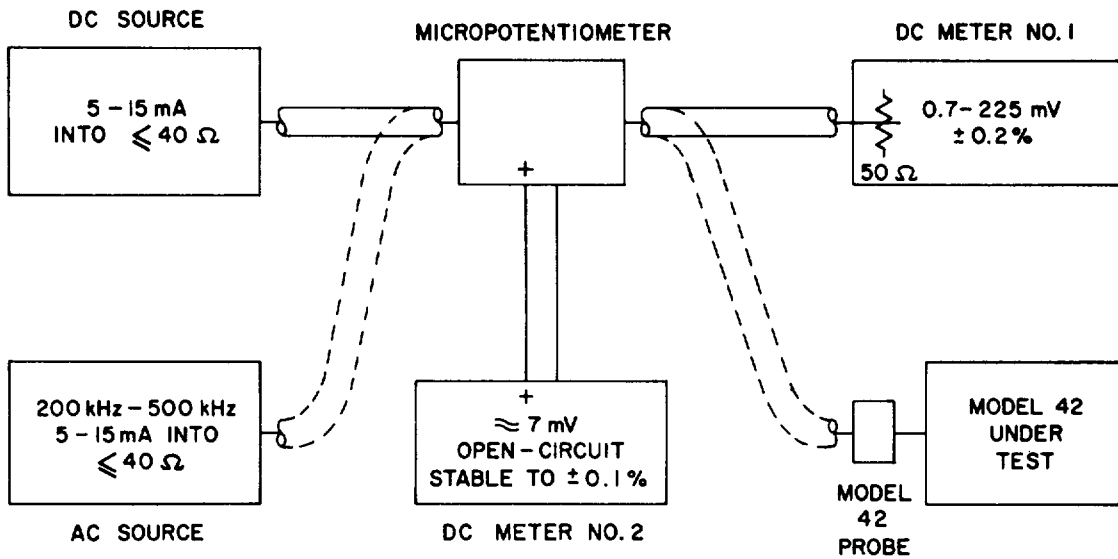
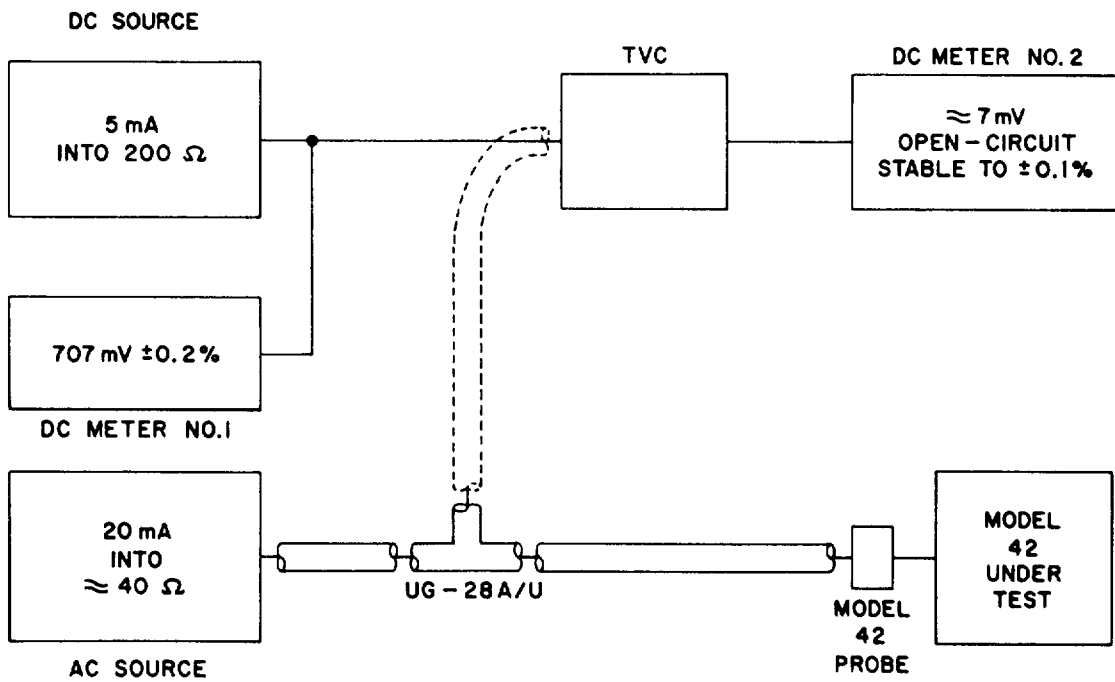

Figure 9. Connections
Figure 10. Connections
Because of the outstanding low-frequency response of the instrument (200 kHz as opposed to the usual 10 MHz of competitive instruments) it is convenient to check the performance by using voltage sources in the frequency range of 200 kHz to 1 MHz. In this range, there are commercial sources and reference standards available with the required accuracy. Figure 9 shows the suggested equipment and connections to check all ranges of the instrument, except the +10 dBm range; Figure 10 shows the suggested equipment and connections to check the +10 dBm range.
The Boonton Model 25A Power Meter Calibrator can be substituted for the equipment shown in figures 9 and 10. This calibrator provides 1 MHz power levels from -69 to +20 dBm in 1 dB steps with 0.05 dB uncertainty. If the Model 25A Calibrator is used, disregard all references in paragraphs 5.4 and 5.5 to equivalent voltage levels; merely refer to specified power levels which then can be switch-selected on the Model 25A.
Each range is checked by connecting the Model 440 micropotentiometer (using the appropriate thermocouple and radial resistor) to the dc power source and dc meter No. 1 (Figure 9) and adjusting the dc power source until the dc meter No. 1 reads the voltage equivalent to the full-scale power for that range (refer to Table 2). Record the dc meter No. 1 reading. Now connect the micropotentiometer to the ac power source and the Model 42BD under test. Adjust the ac power source until the dc meter No. 2 indicates the same value as recorded for the dc meter No. 1. The RMS output voltage of the micropotentiometer is now equivalent to the recorded dc voltage. The Model 42BD should now read full scale within the specified tolerance ($\pm 5\%$ for the PWR mode; ± 0.2 dBm for the dBm mode). Perform the steps listed in Table 2 to check performance.
- a. Connect the instrument to test set-up as shown in Figure 10. Depress the 10 mW button of the FULL SCALE range selection.
- c. Connect the ac source to the ac source tee (UG-28A/U) as in Figure 10.
- a. Connect the instrument in a test set-up as shown in Figure 10. Depress the 10 mW button of the FULL SCALE range selector and inject an input of 707.1 mv.
- c. Remove the instrument from the Figure 10 test set-up and connect it to a test set-up as shown in Figure 9. Depress the 100 nW button of the FULL SCALE range selector and set the OFF/PWR/dBm switch to PWR.
- a. Connect the instrument to a test set-up as shown in Figure 9, depress the 1 mW button of the FULL SCALE range selector and inject an input of 223.6 mv (refer to Table 2, step 6).
- a. Connect the instrument in a test set-up as shown in Figure 9. Depress the 1 mW button of the FULL SCALE range selector, and inject an input of 223.6 mV (refer to Table 2, step 6).